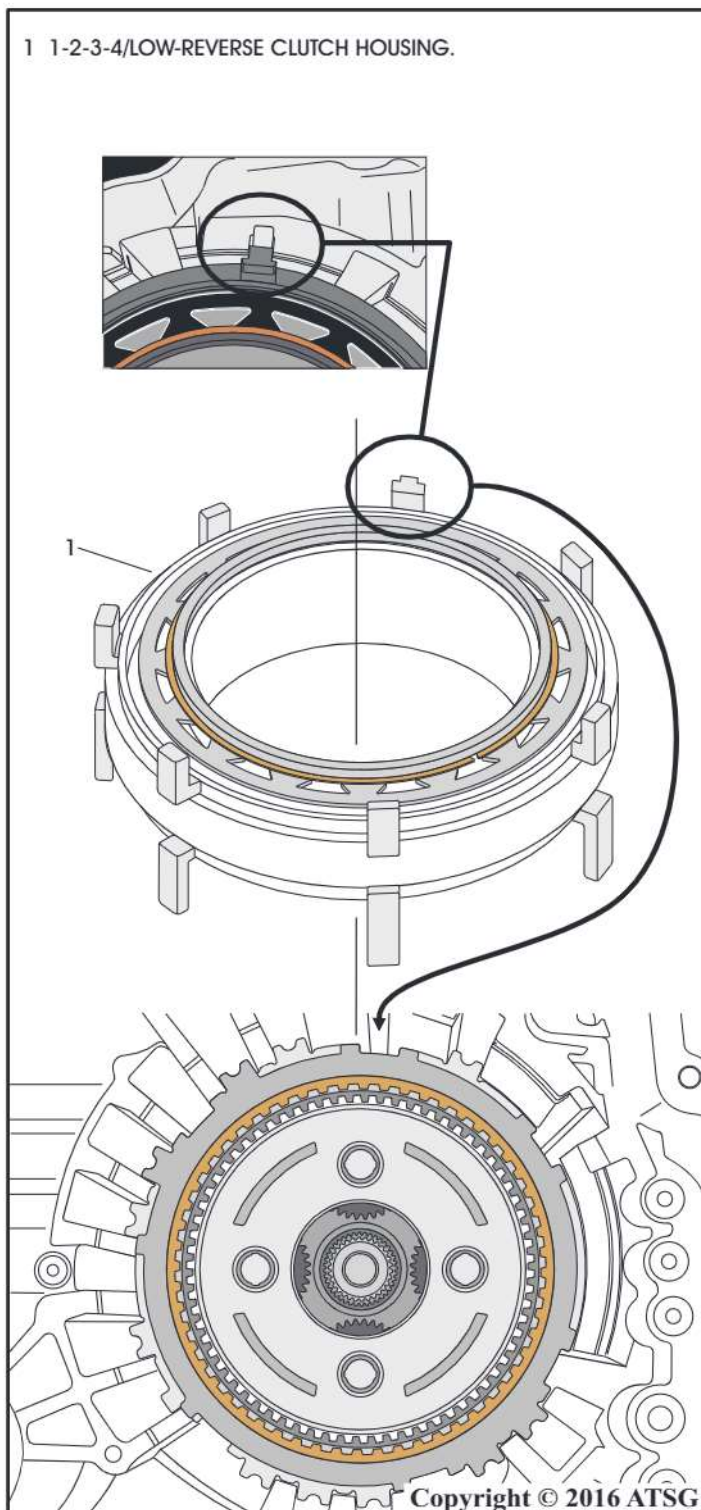

Figure 159
59. Install the 1-2-3-4/Low Reverse clutch housing with the narrow lug lined up with the narrow notch in the transmission case as shown in Figure 159.